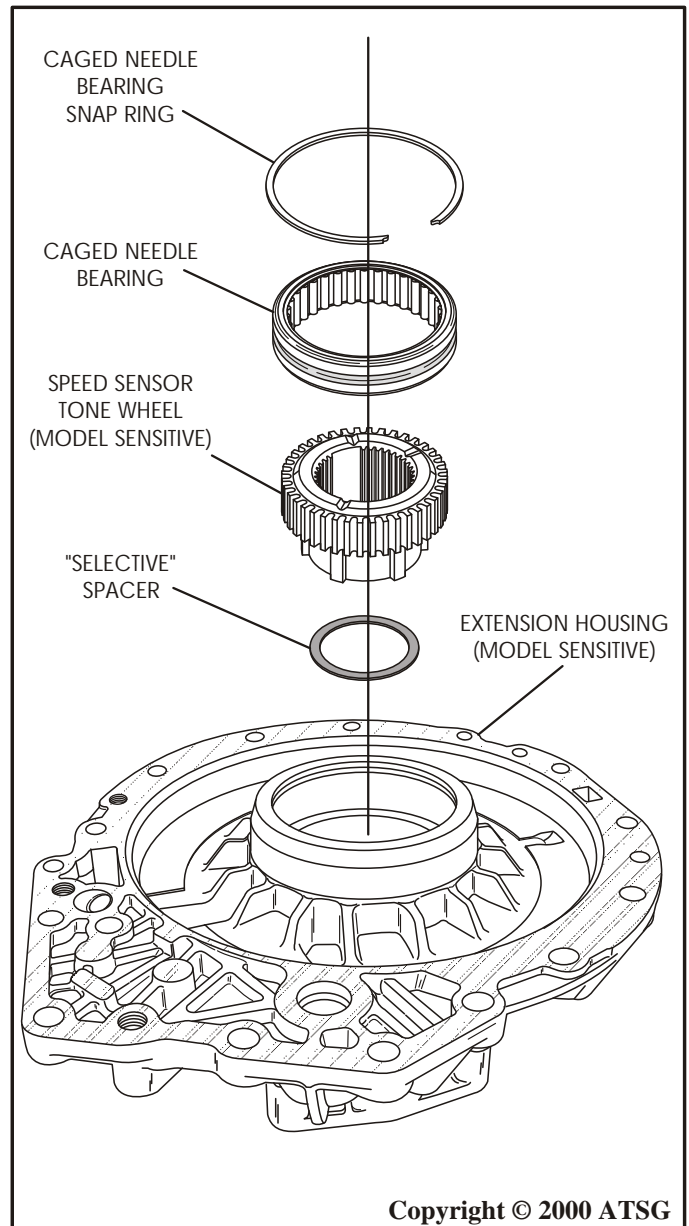

Figure 136
9. Turn the extension housing over so the front side is facing up, as shown in Figure 136.
10. Install the selective spacer against ball bearing in extension housing (See Figure 136).
11. Install output speed sensor tone wheel (if used) in the direction shown in Figure 136.
12. Install caged needle bearing in the extension housing bore, as shown in Figure 136.
13. Install the caged needle bearing retaining snap ring, as shown in Figure 136.